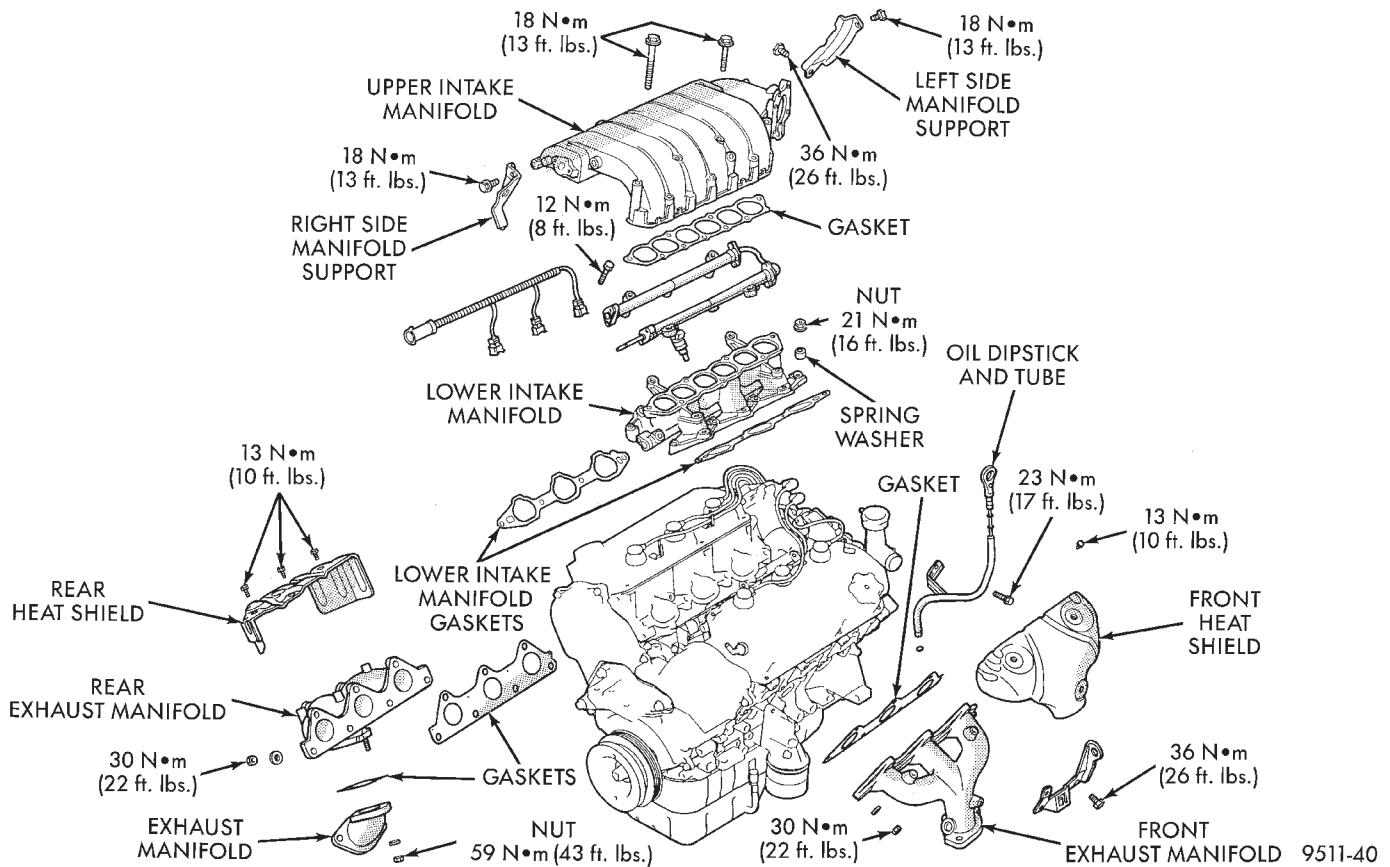
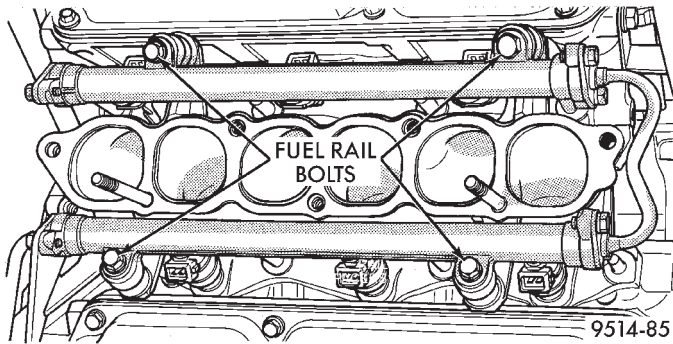

Fig. 19 Intake and Exhaust Manifolds—2.5L Engine
Fig. 27 Fuel Rail Attachment
- (15) Remove 7 bolts holding upper intake plenum and remove plenum (Fig. 19).
- (16) Disconnect electrical connectors from fuel injectors.
- (17) Remove 4 bolts holding fuel rail (Fig. 27).
- (4) Remove Power Steering pump bracket. Refer to Group 19 Steering for procedure.
- (5) Remove nuts attaching rear manifold to cylinder head and remove manifold.
- (6) Lower vehicle and remove screws attaching front heat shield to front manifold (Fig. 19).